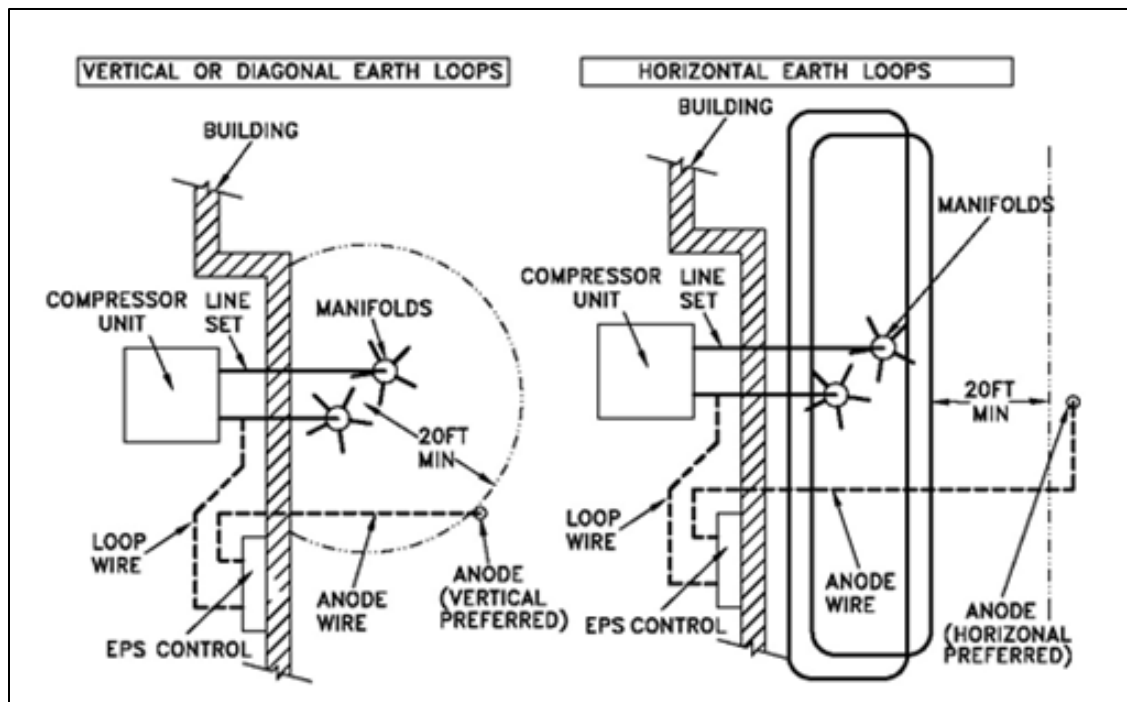
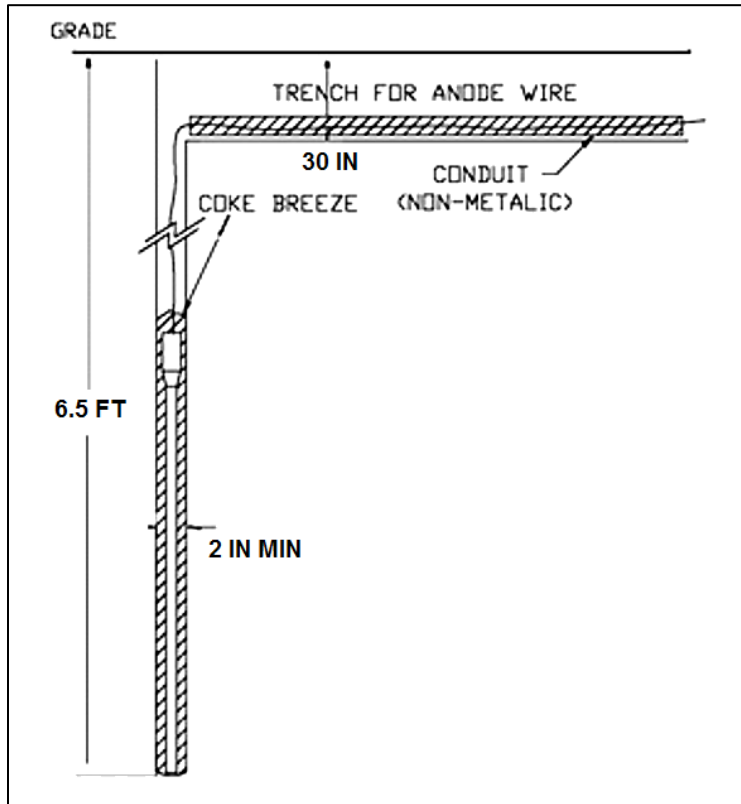
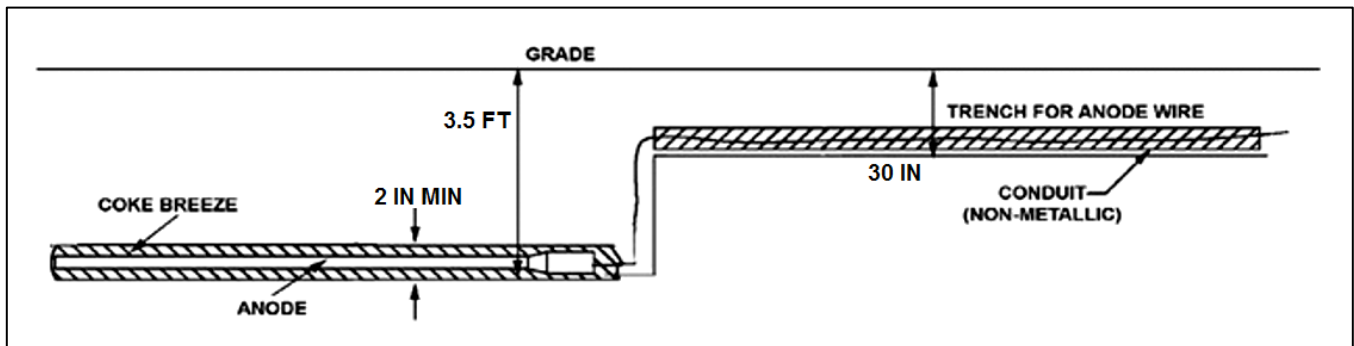

Figure 2. Typical Anode Locations
Figure 3. Vertical Anode Installation
Figure 4. Horizontal Anode Installation
For (1) vertical and diagonal and (2) horizontal earth loop, the anode is located as shown in Figure 2. It must be at least 20 feet away, as shown, with NO METAL pipes, wires or other objects between the anode and the earth loops. Figure 2 also shows the general layout and placement of the EPS control, loop wire, anode wire and anode.
The installation details for the vertical anode are shown in Figure 3. The vertical anode installation is preferred for vertical or diagonal earth loops; however, the horizontal anode installation as shown in Figure 4 is fully acceptable.
For horizontal earth loops, the earth loop protection system anode should be located at least 20 feet away as shown in Figure 2. No METAL pipes, wires or other objects should be between the anode and the earth loops. The horizontal anode installation as shown in Figure 4 is preferred for horizontal earth loops; however, the vertical anode installation as shown in Figure 3 is fully acceptable.
4. The anode must be fully surrounded on all sides with coke breeze as shown in Figures 3 and 4, and described as follows: